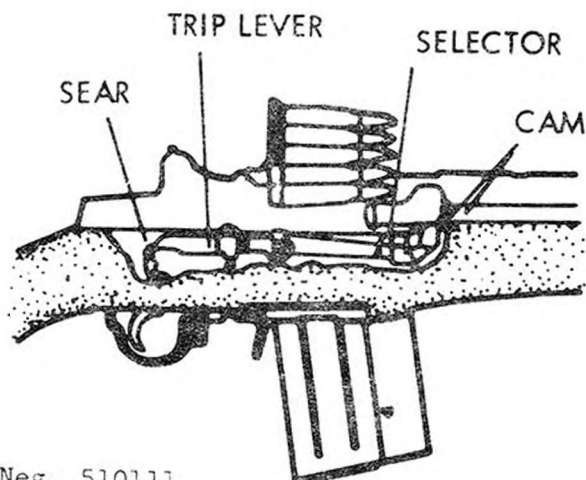

Figure 112. BM 59 mechanism.
hammer spring, swings forward to fire the weapon. As the bolt recoils, after a shot is fired, the hammer is rocked rearward, and the rear hammer hooks pass the sear (fig 112), forcing it rearward against pressure from the hammer spring. When the bolt returns forward, the hammer is held cocked by the sear.
d. When the selector is set for automatic fire, the trip lever rises to engage the operating rod, and the operating rod cams down the front end of the trip lever. The trip lever pivots and its rear end forces the sear rearward, releasing the hammer (fig 112). The hammer swings forward and fires another shot. This action continues as long as cartridges are in the magazine and the trigger is pressed. When the trigger is released, the trigger lugs swing rearward and catch the front hammer hooks when the trip lever actuates the sear. To fire again, the trigger must be pressed.